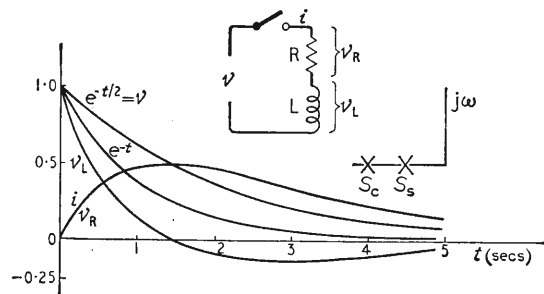

Fig. 8. Curves of excitation and response of a series RL circuit to a Fig. 2 source having half the "frequency."
It is quite interesting to plot the responses (3) and (5). For simplicity let us choose $R = L = T = 1$, so $s_c = -1$. And for a source voltage of Fig. 2 form but different complex frequency let $s_s = -\frac{1}{2}$; this puts the source pole half-way between the origin and the circuit pole. In other words, the forced response takes twice as long to die away as the free response. In Fig. 8 this form, v , is shown, and also e^{-t} for comparison. The total response, i , is plotted from (3); it starts from zero because the free and forced responses exactly cancel out when $t = 0$. Since $R = 1$, the same curve does for v_R , the voltage across R. That is an example of economy of effort. Since v_L , the voltage across L, is what is left, it is plotted by subtracting v_R from v , with the result shown. Note that it becomes negative, owing to the inertia effect of L, so that after 1.4 seconds the voltage across R is actually greater than that provided by the source.